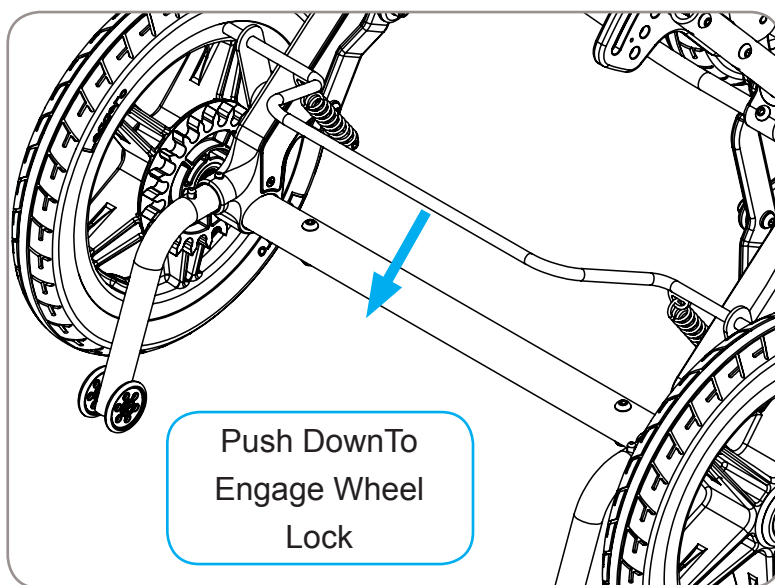

Figure 3
1. To engage wheel locks, push crossbar down with foot. Reference Figure 3.